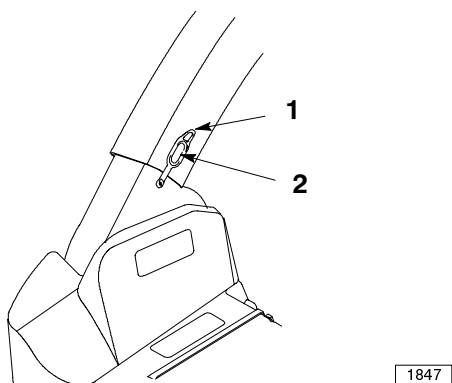

Figure 28
1. Unhook the rubber latch from the knob (Fig. 28).
2. Slide the lower end of the discharge tube off the blower discharge opening (Fig. 28). Pull the upper end of discharge tube out of bagger top.